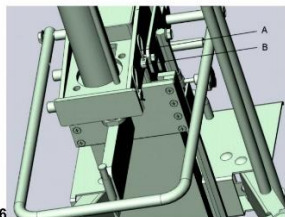

Fig.6
- Mounting the two shafts (A) of cylinder, Fig.6
- Plug in the two R-pins (B) to secure the cylinder on the log splitter, secure the two R - pins in the holes.